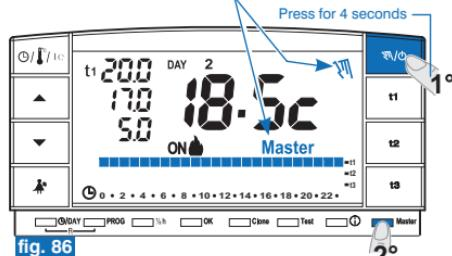

fig. 86
- press the " V/O " key on the MASTER chronothermostat (approximately 4 sec.) to enter into permanent manual operation; the symbol " V/O " becomes fixed (see details in paragraph **7.1 point B**) (example in fig. 86).